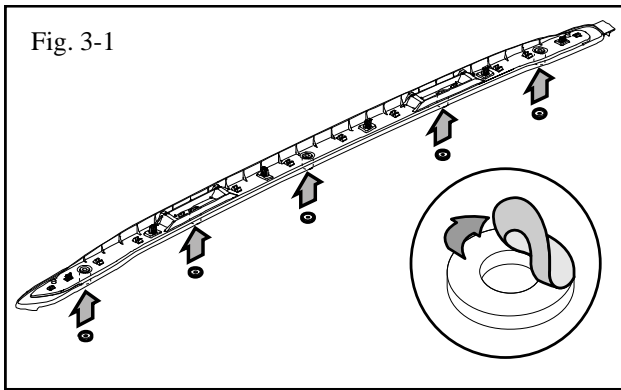

Fig. 3-1
3. Install Mastic Washers (Fig. 3-1)